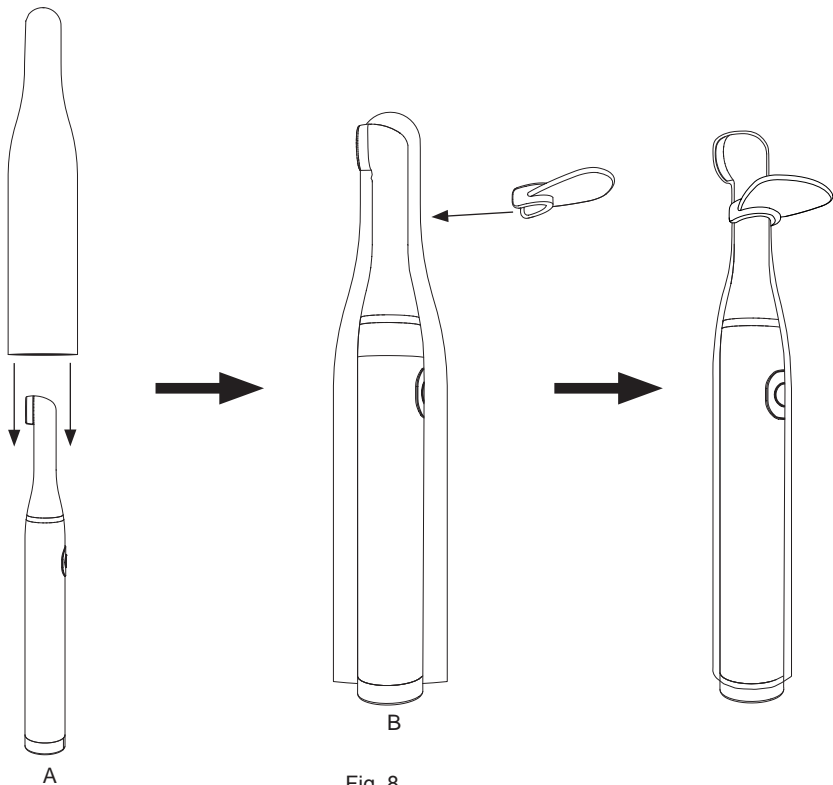

Fig. 8
- 2 Insert the single use protective sheath onto the handpiece (Fig.8 - Ref.A);
- 3 Fix the optical protection onto the handpiece (Fig.8 - Ref.B).